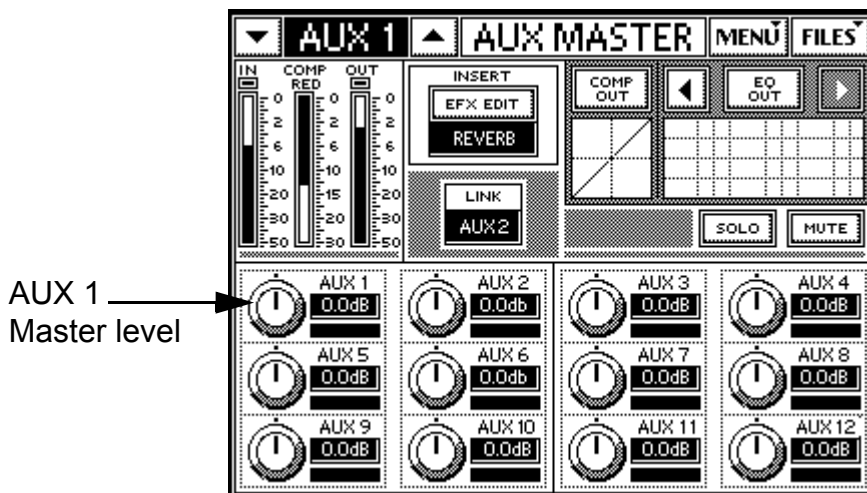

Figure 3-5 Aux Master screen
16. Adjust Aux 1's master level with the corresponding QuickMix knob (see the Aux Master screen in Figure 3-5).